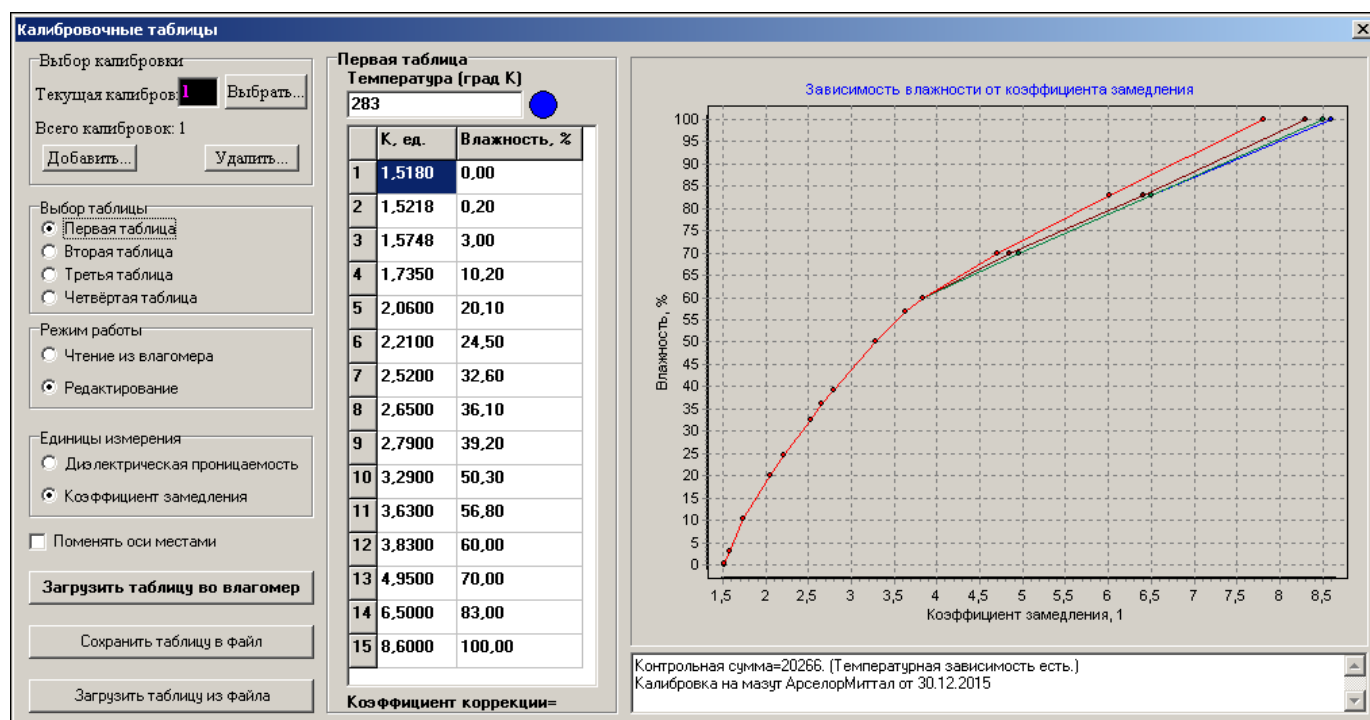

Fig. 8
- 2) open a window for working with calibration tables (Fig. 8);